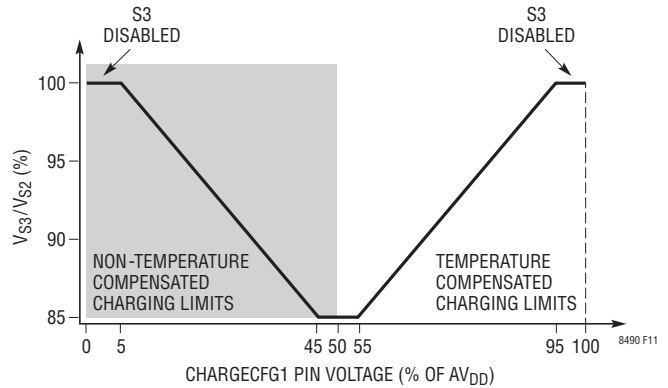
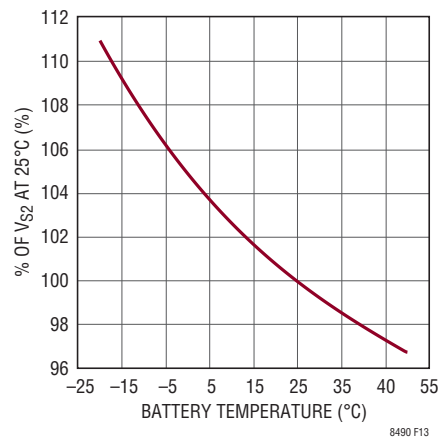

Figure 11. CHARGECFG1 Pin Configuration
Figure 13. Stage 2 Voltage Limit vs Temperature When Temperature Compensation Is Enabled
The Stage 2 voltage limit (V_{S2}) is the maximum battery charging voltage. The voltage limits for Stages 0, 1 and 3 are all related to the Stage 2 limit as shown in Table 3 and Figure 11. If temperature compensated charging is enabled, then V_{S2} will change with temperature as shown in Figure 13. As such, the limits for the other stages will also change with temperature since they are a constant proportion of V_{S2} .
The CHARGECFG1 pin is a multifunctional pin as shown in Figure 11. Set this pin using a resistor divider totaling no less than 100k Ω to the AV_{DD} pin (see the Typical Applications section for examples). The voltage on CHARGECFG1, as a percentage of AV_{DD} , makes the selections discussed below. Avoid setting the divider ratio directly at any of the inflection points on Figure 11 (e.g. 5%, 45%, 50%, 55% or 95%)
2. **BATTERY VOLTAGE TEMPERATURE COMPENSATION:** Some battery chemistries charge best when the voltage limit is adjusted with battery temperature. Lead-acid batteries, in particular, experience a significant change in the ideal charging voltage as temperature changes. If enabled with the CHARGECFG1 pin, the battery charging voltage and all related voltage thresholds are automatically adjusted with battery temperature. As the voltage on the TEMPSENSE pin changes, the PWM duty cycle from the FBOV pin changes such that the voltage limits of the LT8490 follow the curve shown in Figure 13.